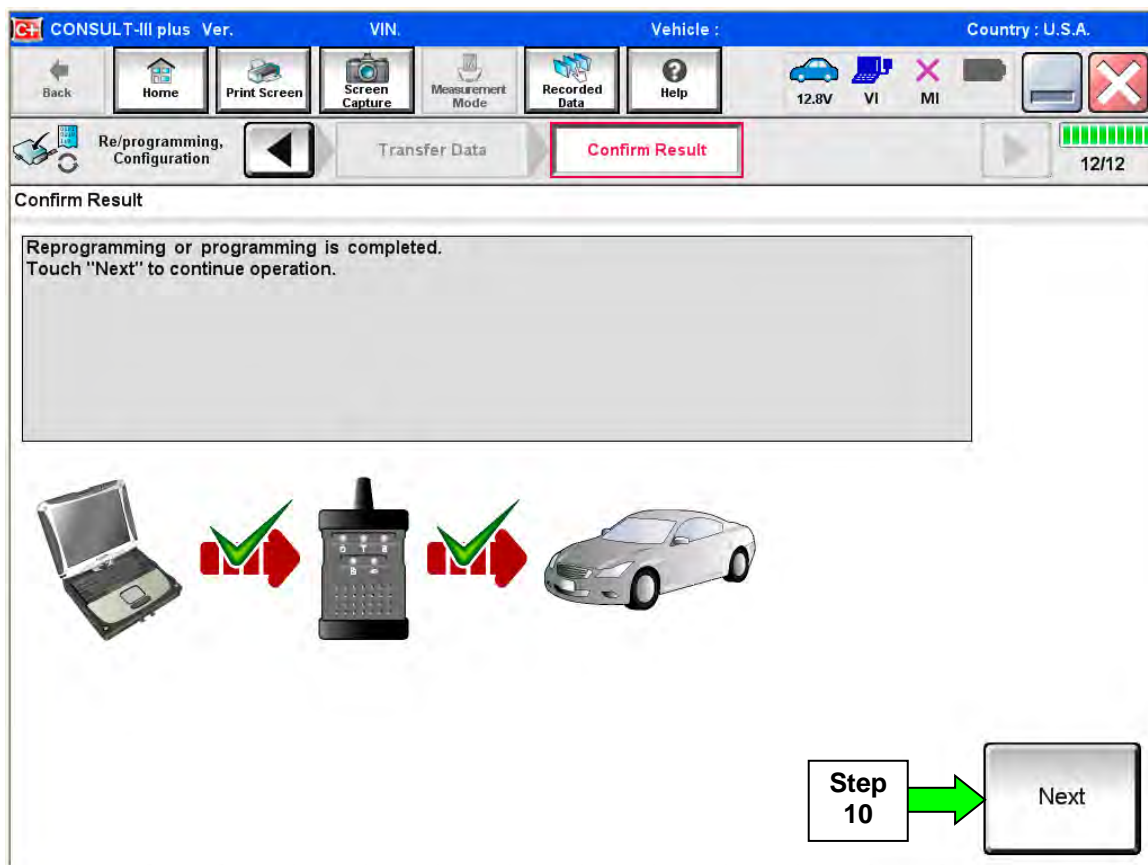

Figure 4K
8. When the screen in Figure 4K displays, reprogramming is complete.
NOTE: If the screen in Figure 4K does not display (indicating that reprogramming did not complete), refer to the information on the next page.